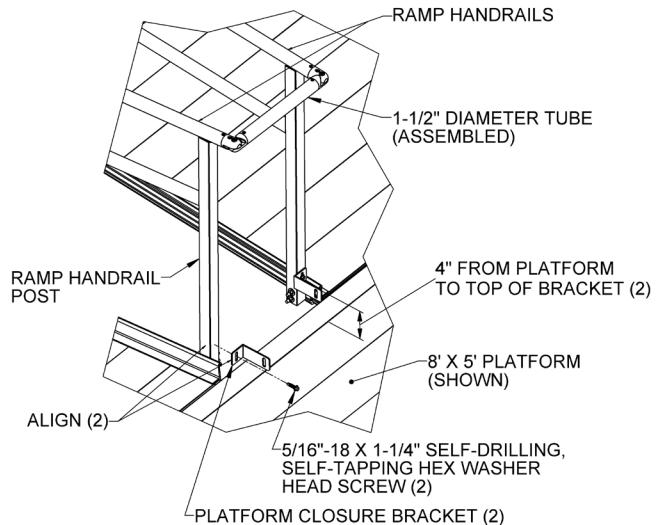

FIG. 5.22
- 5.8.10. Locate the platform closure brackets and orient the brackets so the long leg is on the same side as and parallel to the bracket on the opposite side, the short leg is aligned with the ramp handrail post, and the tops of the brackets are 4" above the platform deck. Clamp in place temporarily if needed (FIG 5.22).
- 5.8.11. Drive 5/16"-18 x 1-1/4" self-drilling, self-tapping hex washer head screws, centered in the slot, through the platform closure brackets and into the ramp handrail posts. Tighten securely but use caution not to overtighten and strip the threads (FIG 5.22).